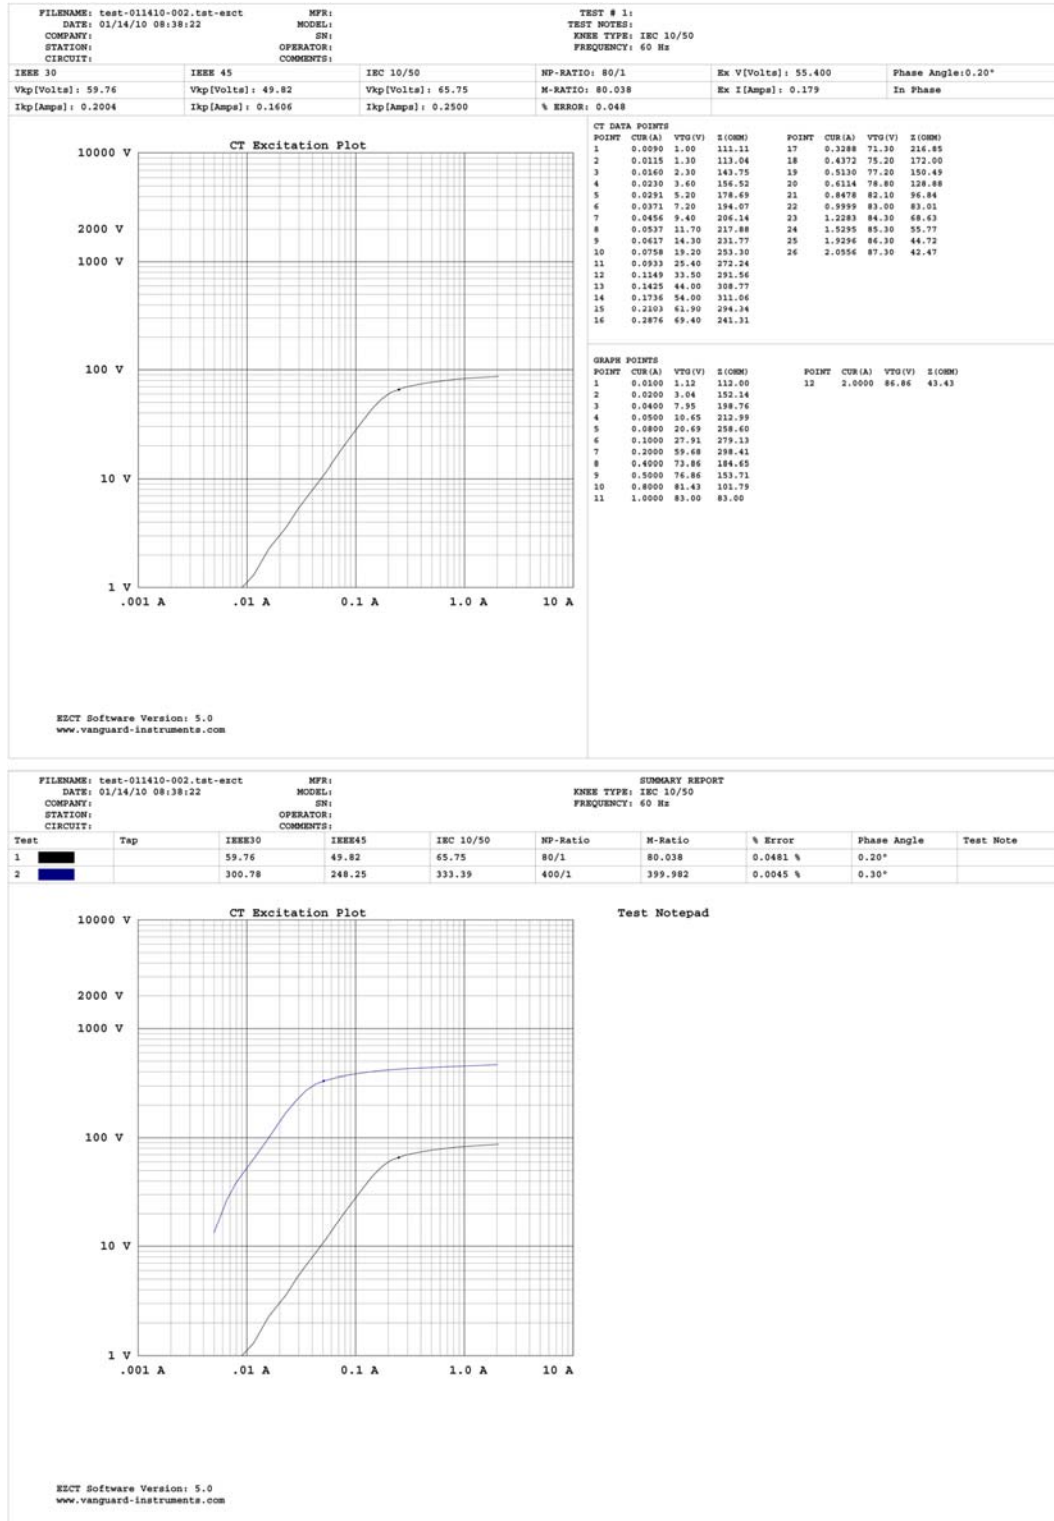

Figure 6. Typical Test Record Printouts
2. Select the printer to print to and make any necessary changes to the printer's parameters and then click on the "OK" button. The test results will be printed. Sample test record printouts are shown in Figure 6.